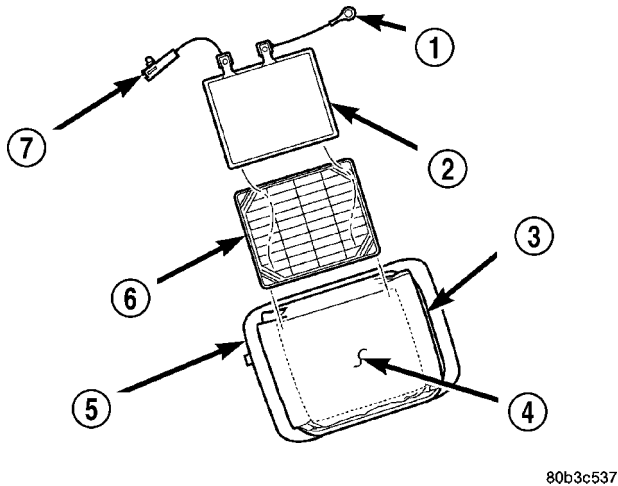

Fig. 4 Horn Switch Remove/Install
(1) Disconnect and isolate the battery negative cable.
(2) Remove the trim cover from the driver side airbag(Refer to 8 - ELECTRICAL/RESTRAINTS/DRIVER AIRBAG - REMOVAL) for the procedure.
(3) Remove the horn switch and tray as a unit from the pouch on the retaining strap of the driver side airbag module (Fig. 4).